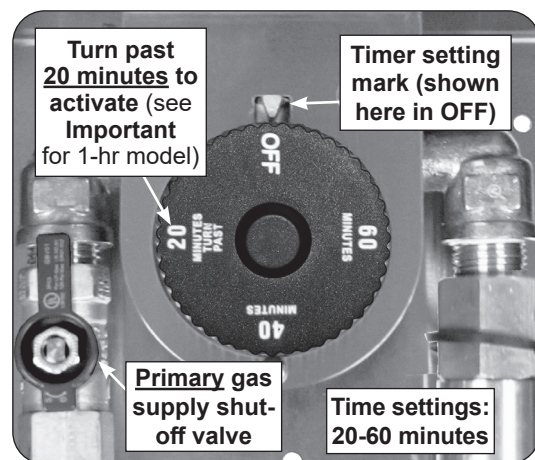

Fig. 3-1 1-hour timer operation
**Important:** When using the timer for periods of less than twenty minutes, you must first turn the dial past 20 minutes (to activate), then return (counter-clockwise) to the desired amount of time. This will ensure proper timer operation. See Fig. 3-1.